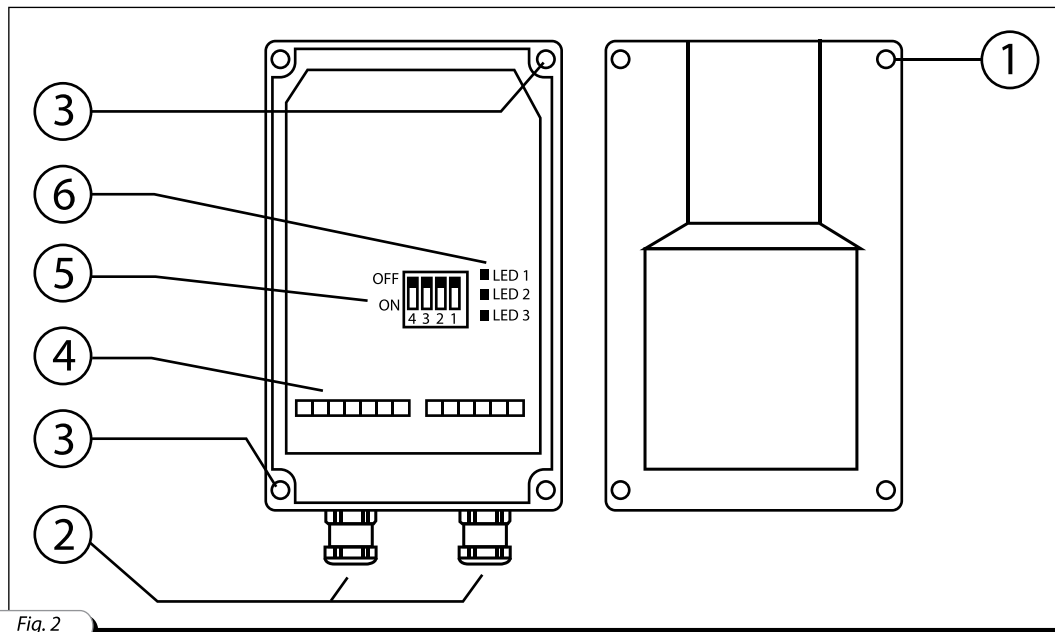
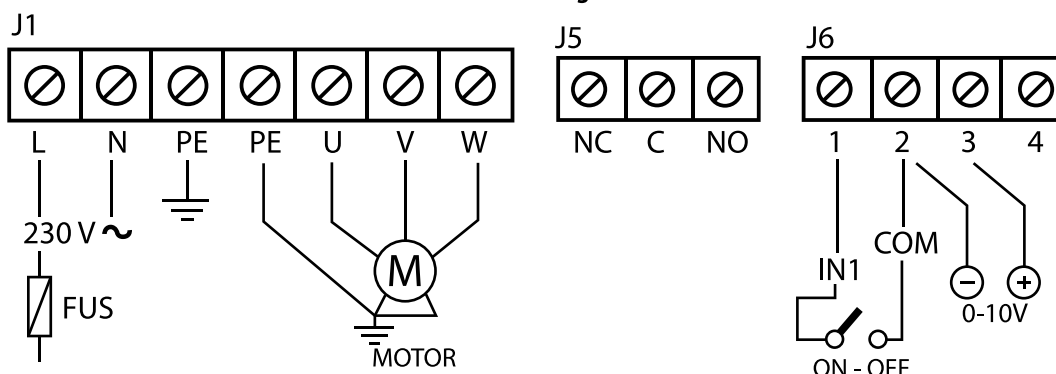

Fig. 2
Fig. 4
- Remove the front panel (see Fig. 2).
- Secure the variable frequency drive to the mating surface by using the mounting holes in the rear wall (see Fig. 2).
■ Complete the electrical connections according to the diagram (see Fig. 3 and Fig. 4). External electrical conductors are connected to the unit by means of screw terminals 4 (see Fig. 2). The conductors are routed to the housing through sealed lead-ins 4 (see Fig. 2). The external lead-in (220 V / 50 Hz) must be equipped with an automatic circuit breaker built into the stationary wiring.